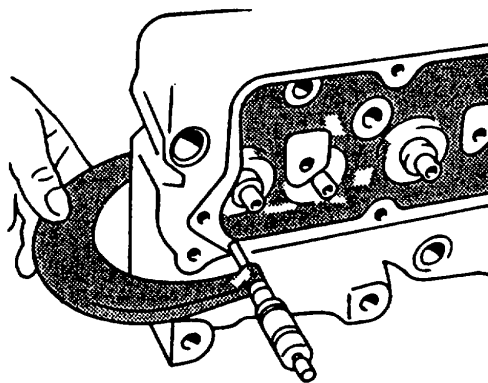

FIGURE 3-121. Measuring Cylinder Head Thickness
- (1) Check cylinder head for flatness using precision straightedge and feeler gage. Check lengthwise and crosswise in several places. A good secondary check is one that is on a diagonal.
- (2) The out-of-flat measurement must not exceed 0.005 inch (0.13 mm) for the entire length or width of head, or 0.001 inch (0.025 mm) for every 5.90 inches (150 mm) of length or width of head.
- (3) If any measurement exceeds this specification, the cylinder head must be either reconditioned or replaced. Refer to step i and measure cylinder head thickness.
i. Measure cylinder head thickness (FIGURE 3-121) as follows:
- (1) If cylinder head thickness is less than minimum allowable thickness of 4.104 inches (104.24 mm), do not resurface it. Install a new cylinder head.